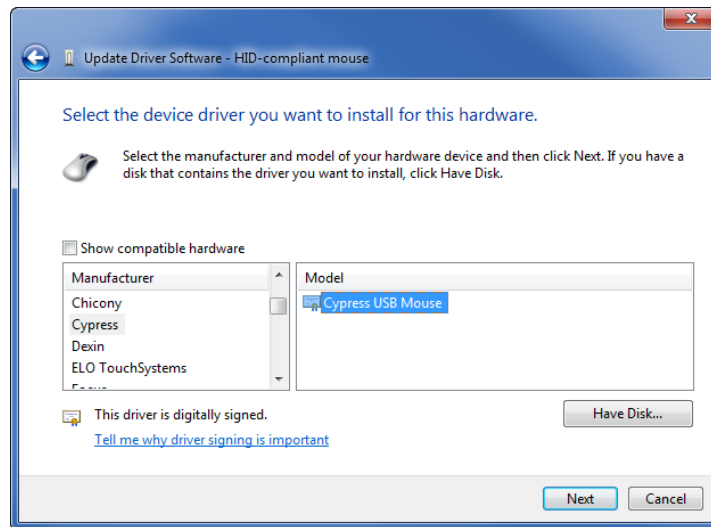

Figure 20. Selecting the Cypress USB Mouse Option
6. Select **Cypress USB Mouse** in the *Model* selection box (Figure 20 on page 35).